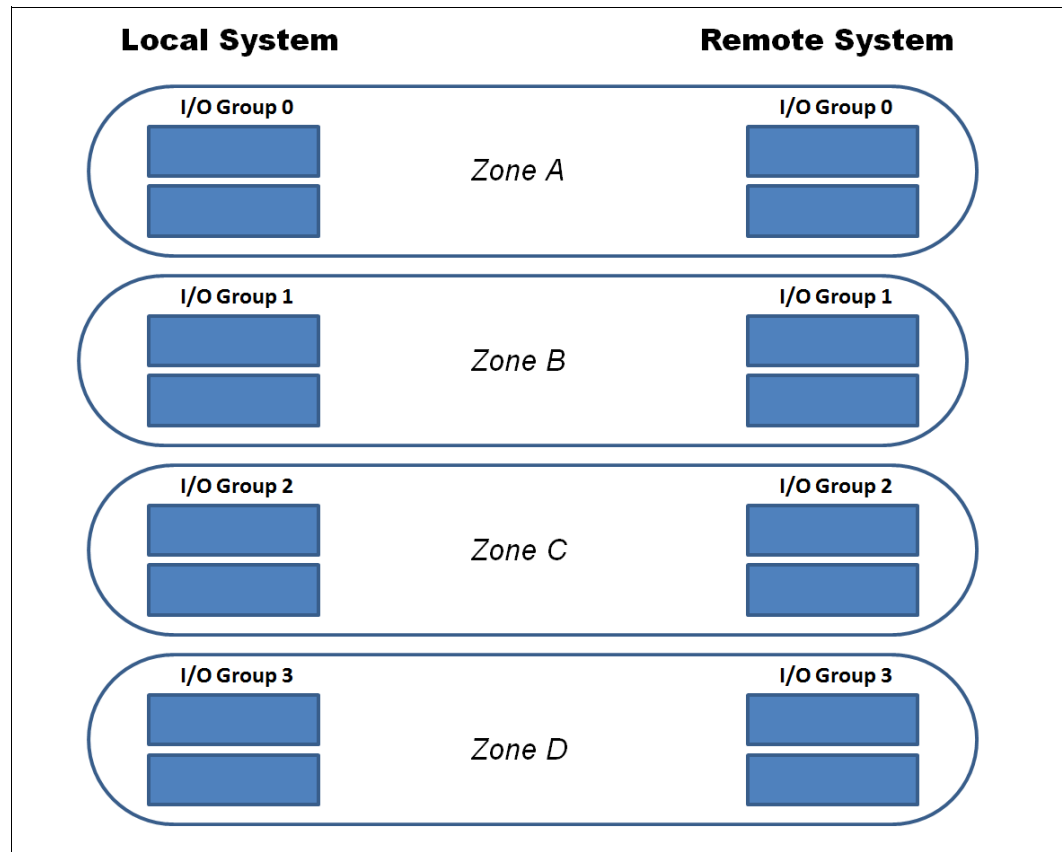

Figure 5-18 Zoning scheme for >80ms remote copy partnerships
- ▶ For Metro Mirror and Global Mirror configurations where the round-trip latency between systems is more than 80 milliseconds, SAN zoning should be applied to provide separate intrasystem zones for each local-remote I/O group pair that is used for replication, as shown in Figure 5-18 on page 175.